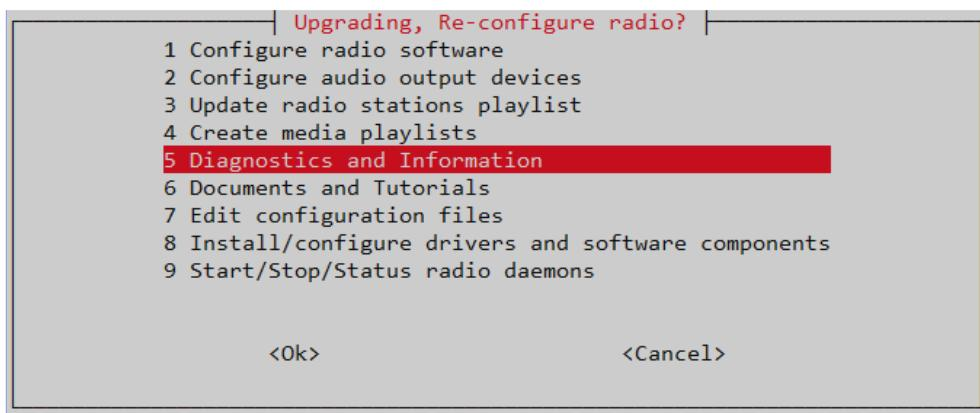

Figure 254 Diagnostics and Information menu
- Select option **1 Run the radio in diagnostic mode (nodaemon)** shown in *Figure 254 Diagnostics and Information menu* on page 211.
- Select option **2 Test rotary encoders** from the diagnostics menu. shown in *Figure 254 Diagnostics and Information menu* on page 211.